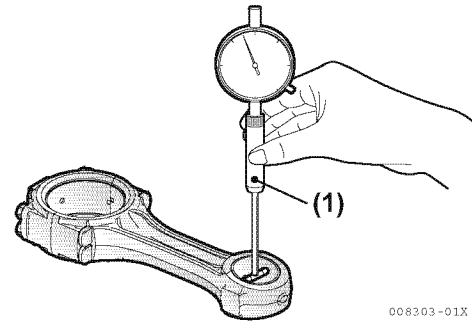

Figure 5-102
- Measure the piston pin bearing inside diameter and the piston pin outside diameter. Calculate the oil clearance from the difference of the measured values (**Figure 5-102**). See *Crankshaft* on page 5-62.